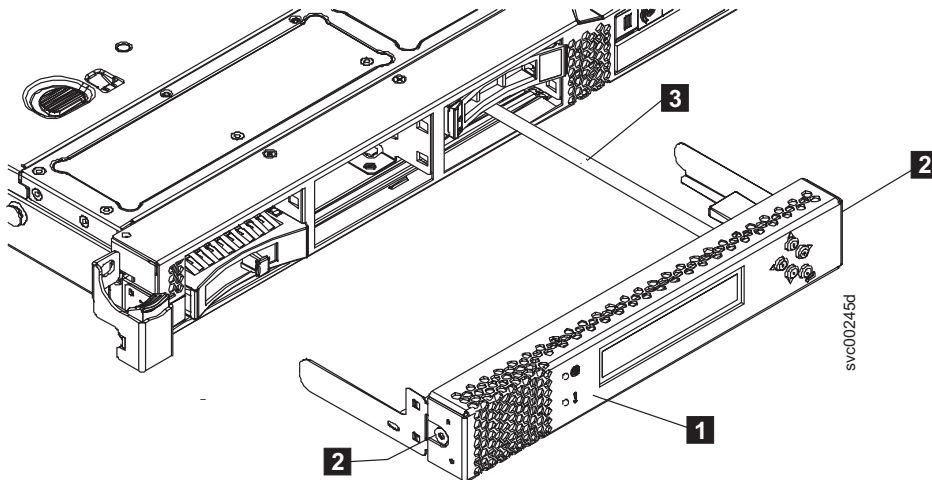

Figure 108. Service controller with attached USB cable (SAN Volume Controller 2145-CF8 shown)
5. If the service controller (**1** in Figure 108 on page 128) is in place, press the release buttons (**2**) on each side of the service controller assembly to release the service controller from the node, but do not disconnect the USB service controller cable. Slide the service controller from the node and support it somewhere, if possible, or gently suspend the service controller from the service controller cable.